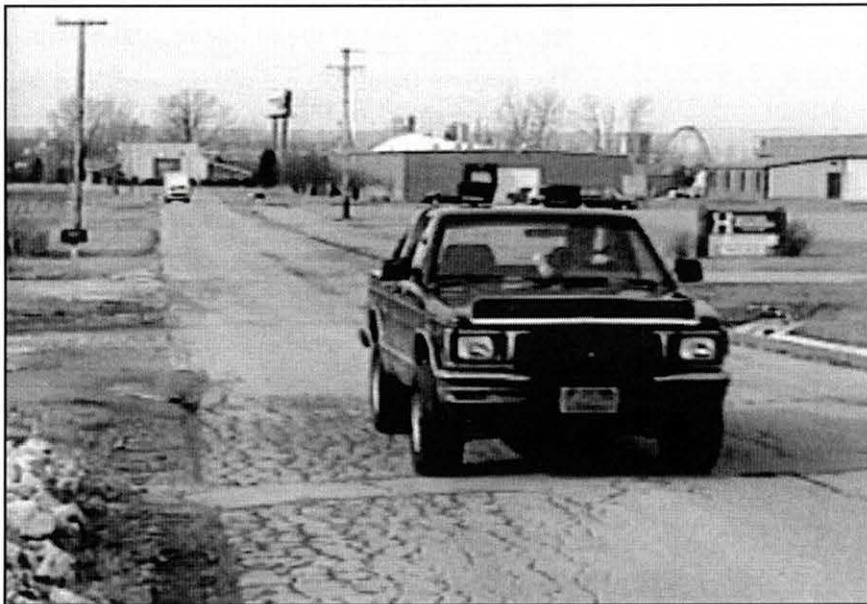

Figure 7. Driver of a Car Maintains Desired Speed
- 1. Perform the following substeps to draw a block diagram of the actions that take place to maintain the speed of a car, as shown in figure 7.